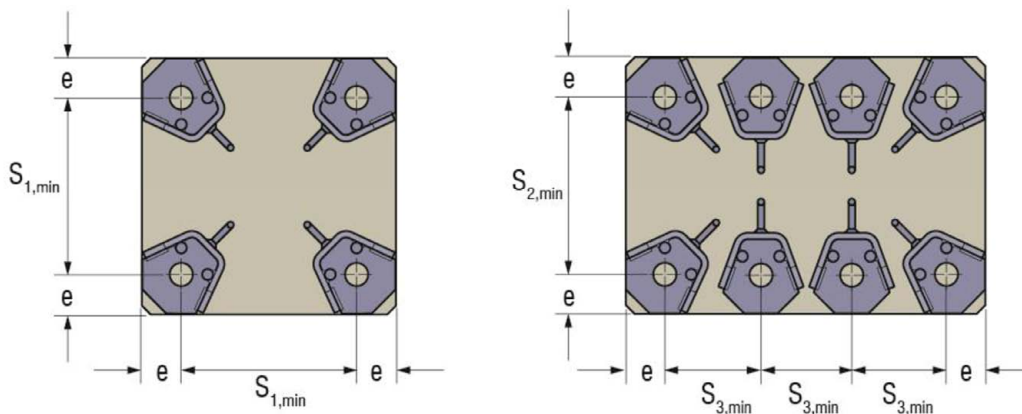

Fig. B1: Example geometries – Minimum distances
- Examples of distances and arrangements are given in Fig. B1 and Table B1.